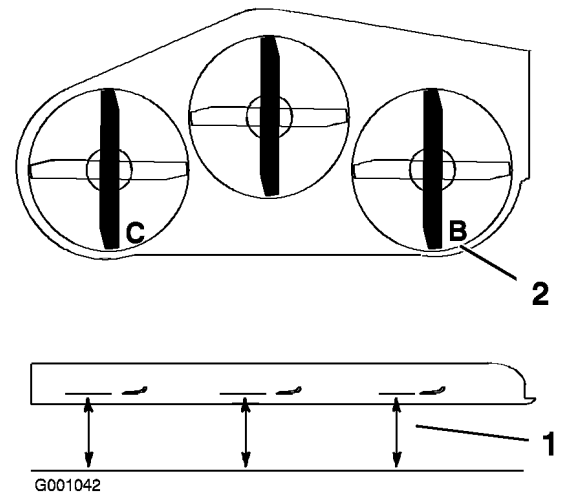

Figure 63
1. Position the **right** blade front-to-rear (Figure 63).
2. Measure the right blade at the **B** location, from a level surface to the cutting edge of the blade tip (Figure 63).
4. Position the left blade front-to-rear (Figure 63).
5. Measure the left blade at the **C** location (Figure 63), from a level surface to the cutting edge of the blade tip .